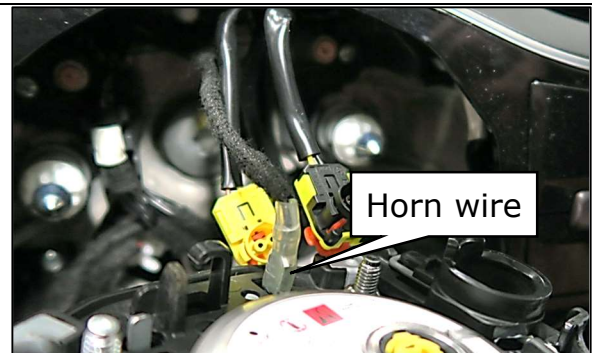

Figure 17
- Reconnect the horn wire (Figure 17)